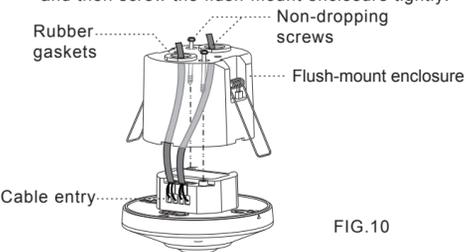

FIG.10
3.4.2.2 Use a screwdriver to break the rubber gasket on flush-mount enclosure, then feed cables through it (See FIG.10).